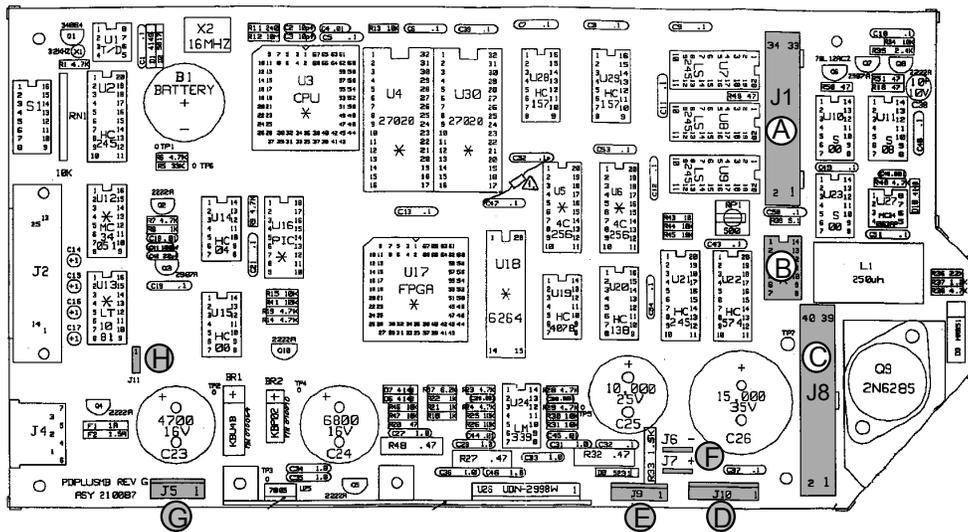

Figure 2-4
- Connect the Memory Module ribbon cable to J1 (A on Figure 2-4)
- Connect the Control Panel ribbon cable to J3 (B on Figure 2-4)
- Connect the Printhead ribbon cable to J8 (C on Figure 2-4)
- Connect the 7 pin Power cable connector to J10, (D on Figure 2-4)
- Connect the 6 pin Stepper Motor cable connector to J9, (E on Figure 2-4)
- Connect the white spade lug (attached to the power cable) to J6 (F on Figure 2-4)
- Connect the red spade lug attached to the power cable) to J7 (F on Figure 2-4)
- Connect the Stepper Motor cable to J5 (G on Figure 2-4)
- Connect the Cutter cable to J11 (H on Figure 2-4)